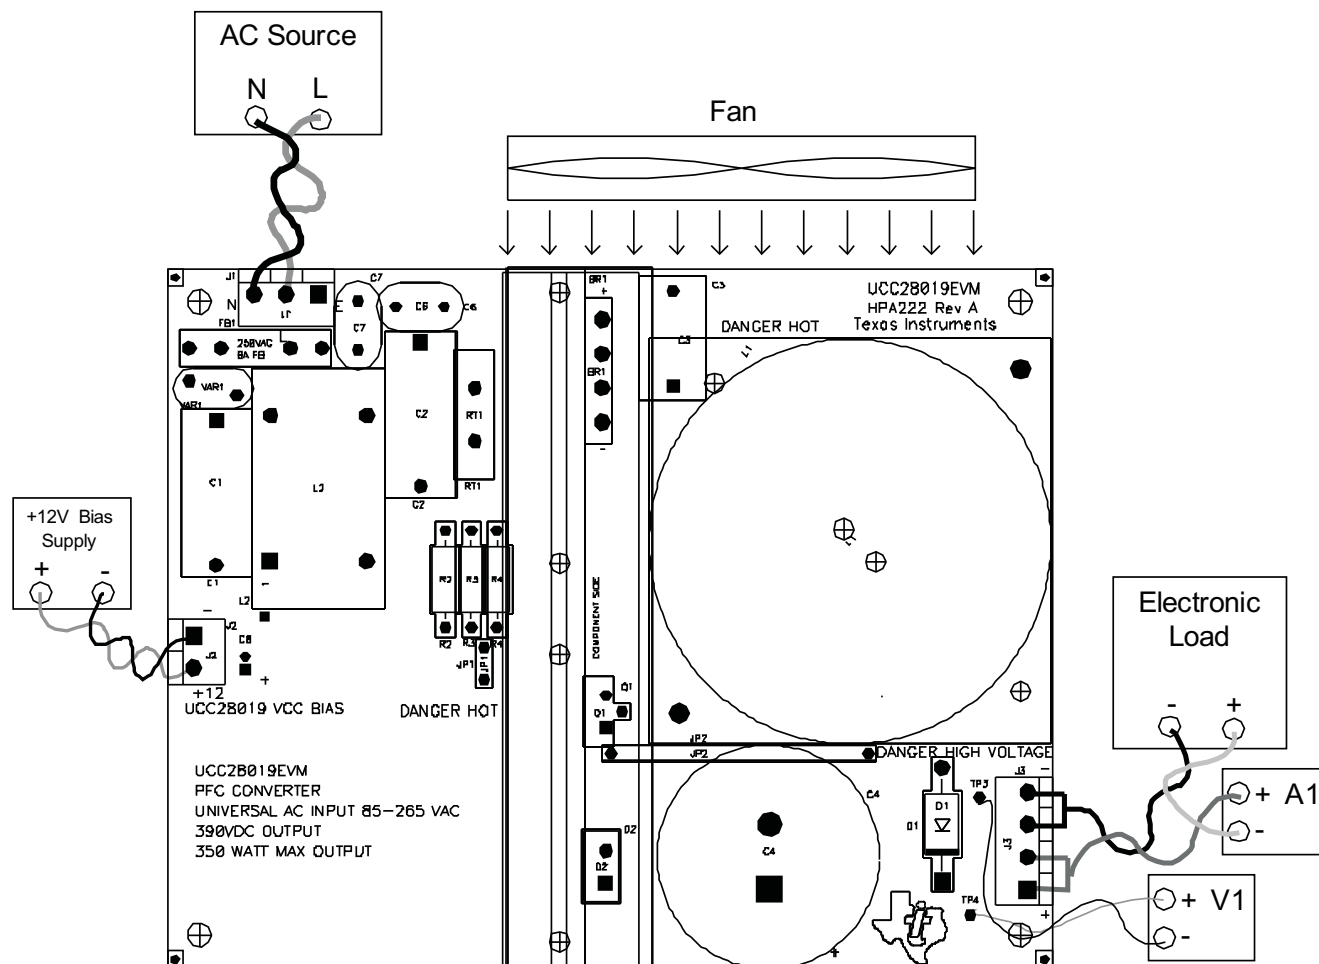

Figure 2. UCC28019EVM Test Set Up
Figure 2 shows the basic test set up recommended to evaluate the UCC28019EVM.
The ac input source shall be capable of supplying between 85 VAC and 265 VAC at no less than 8 A peak. Connect the ac source to the L and N terminals of J1 on the EVM as shown in Figure 2.
The bias supply to the device shall be capable of supplying up to 12 VDC at no less than 10 mA. Connect the bias supply to the – and +12 terminals of J2, UCC28019 VCC BIAS, as shown in Figure 2.
For highest accuracy, the output voltage of the UCC28019EVM shall be monitored by connecting a digital voltmeter, V1, directly across TP3 and TP4 with the positive terminal at TP4 and the negative terminal at TP3, as shown in Figure 2. A dc current meter, A1, should be placed in series with the electronic load for accurate output current measurements.
A fan, capable of 200 LFM to 400 LFM, should be used to maintain component temperatures within safe operating ranges at all times during operation of the UCC28091EVM. Position the fan so as to blow along the length of the heatsink as shown in Figure 2.
- a. Connect the equipment as shown in Figure 2.